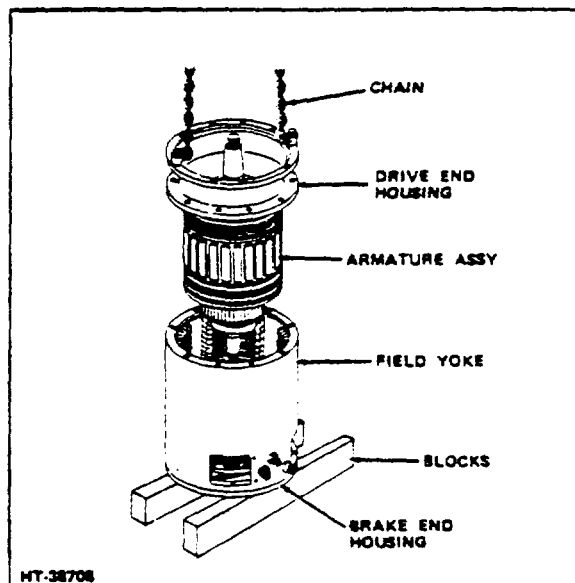

Figure 5-1. Removing Armature From Yoke
6. Remove capscrews that secure drive end housing to yoke. Attach chain to housing and with hoist, lift armature, bearings, retainer and housing up and out of field yoke. (See Fig 5-1.)